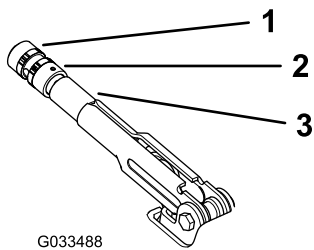

Figure 60
2. Loosen the set screw securing the knob to the parking-brake lever (Figure 60).
3. Rotate the knob (Figure 60) until a force of 20 to 22 kg (45 to 50 lb) is required to actuate the lever.
4. Tighten the set screw when finished (Figure 60).